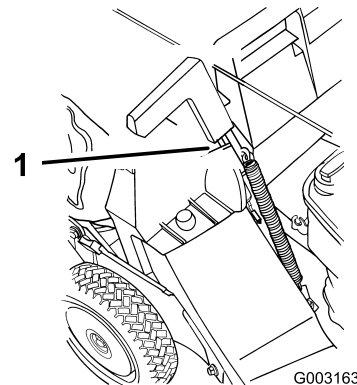

Figure 19
5. Pull the discharge door handle forward until the pin clears the catch, and move the handle rearward until the pin locks in the bag notch (Figure 19).